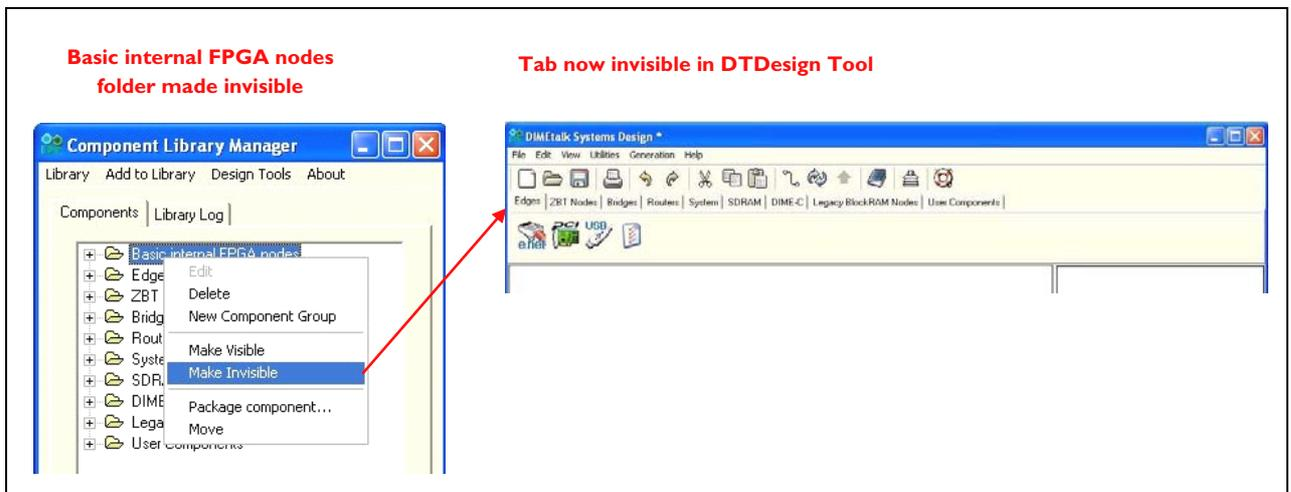

Figure 53: Make Component Tab Invisible
3. Entire tabs can also be made invisible using the Library Manager. For example, right-click on the 'Basic internal FPGA nodes' in the Library Manager and select '**Make Invisible**' from the menu which appears, as shown in **Figure 53**. Close the Library Manager and in DIMETalk System Design the 'Basic internal FPGA nodes' tab is no longer visible. To change this open the Library Manager again and click on the